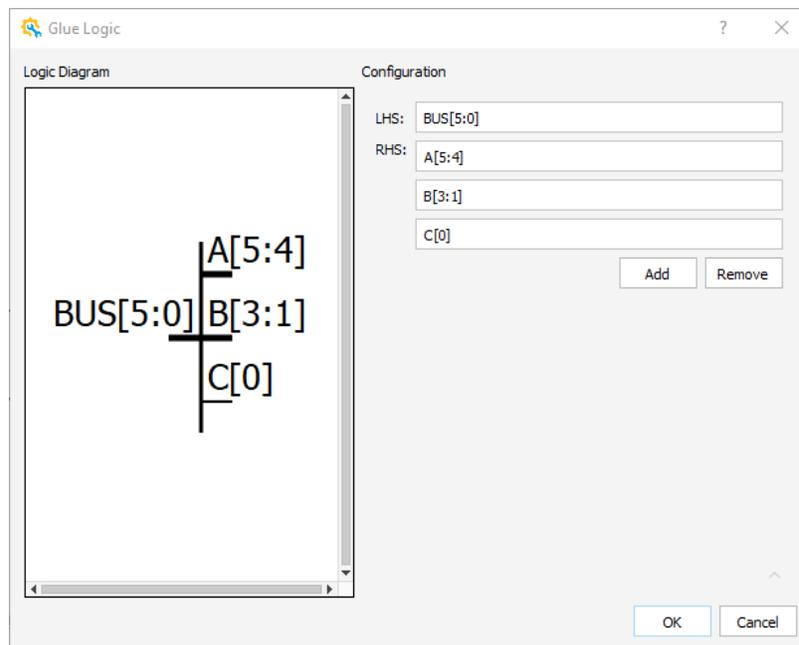

**Figure 2.28. Schematic View Shows the Custom Rtl Module**
- Click **OK**. The schematic block for the rtl module in red appears in the Schematic view (Figure 2.28).